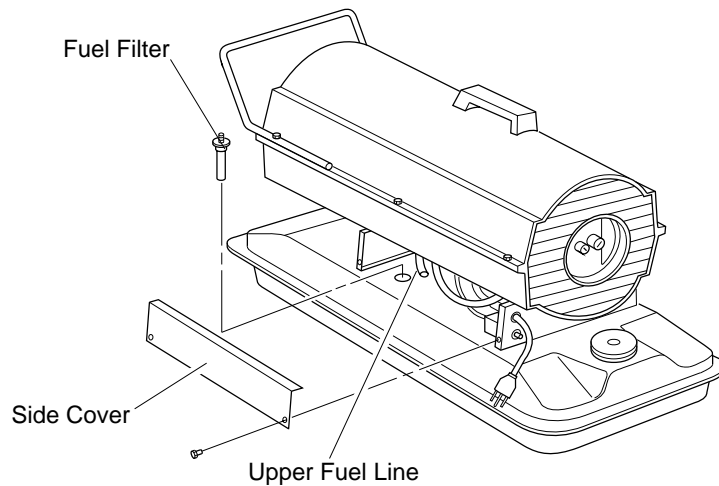

Figure 15 - Fuel Filter Removal, 35/50/70 Models
3. Pull upper fuel line off fuel filter neck (see Figure 15).